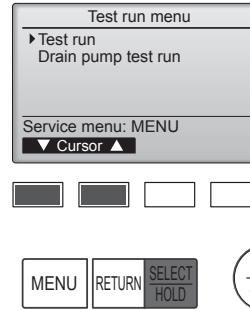

Fig. 6-4
④ Select "Test run" with the [F1] or [F2] button, and press the [SELECT/HOLD] button. (Fig. 6-4)